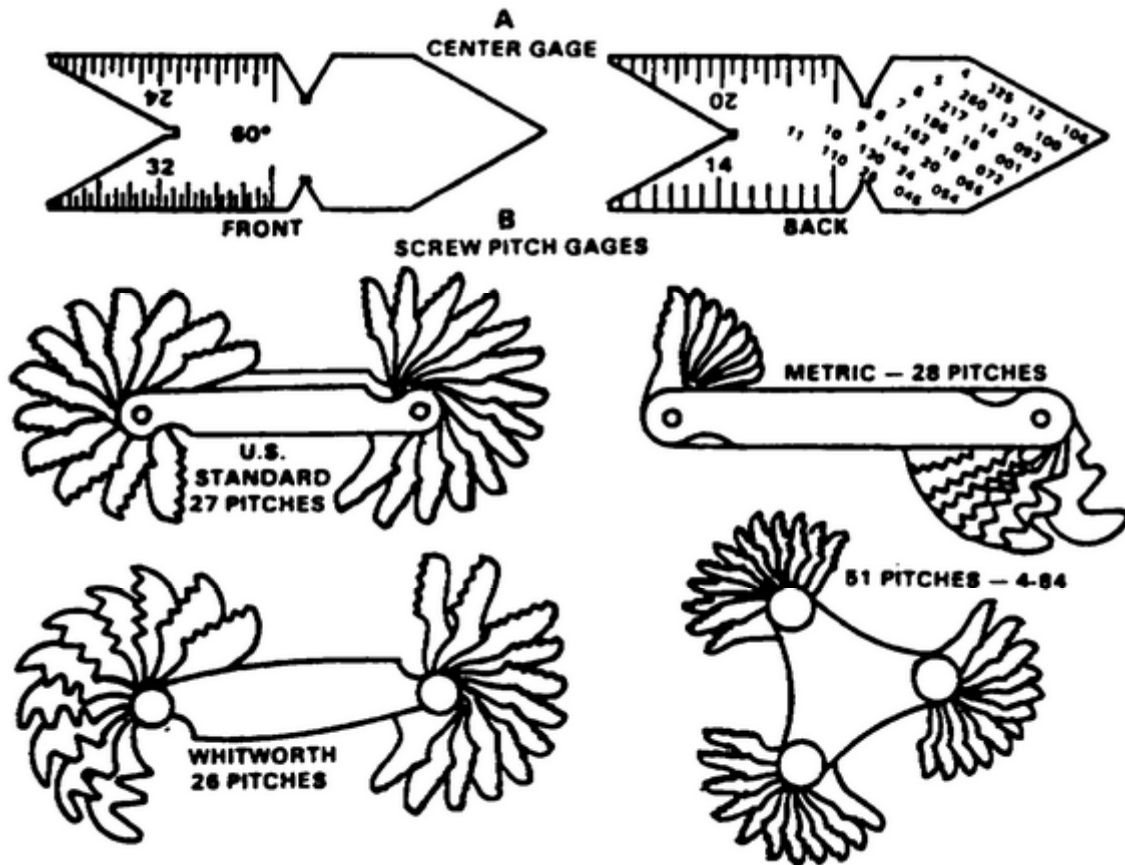

FIGURE 51. CENTER AND SCREW PITCH GAGES (PARTS A AND B)
- a. Center gages, Figure 51, Part A, are graduated in fourteenth, twentieth, twenty-fourth, and thirtieth of an inch. The back of the center gage has a table giving the double depth of thread in thousandths of an inch for each pitch. This information helps you determine the size of tap drills. Sixty-degree angles in the shape of the gage are used for checking Unified and American threads or US standard threads and for checking thread cutting tools.
- b. Screw pitch gages, Figure 51, Part B, are made for checking the pitch of US standard, metric, national form, V-form, and whitworth cut threads. These gages come grouped in a case or handle, like thickness gages. The number of threads per inch is stamped on each blade. Some types have blade locks. The triangular shaped gage has 51 blades covering a very wide range of pitches, including 11 1/2 and 27 threads per inch for V-form threads.